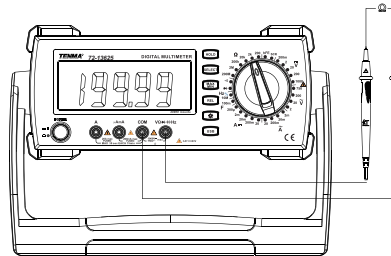

Figure 4
4. Measurement of Resistance (see Figure 4)